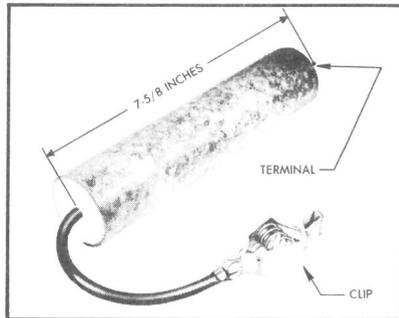

FIGURE 3. B Shunting Capacitor
5.01 The B Shunting Capacitor (Figure 3) is used to distinguish dangerously energized street light fixtures from weakly energized fixtures which are not dangerous. For further information, refer to CTSP 490-050-106.